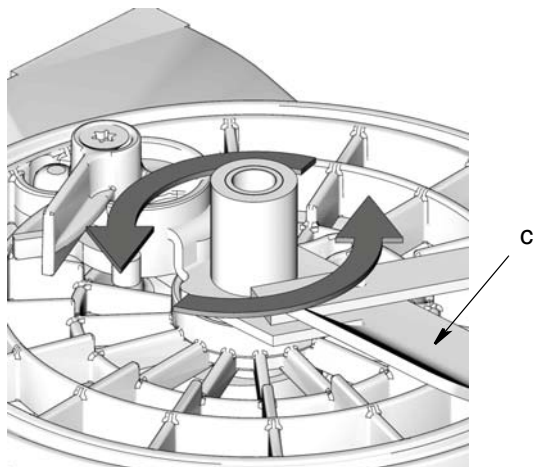

FIG. 8
3. Reinstall paddle (c) by turning it **counter-clockwise** till tight - hand tighten only (FIG. 8).